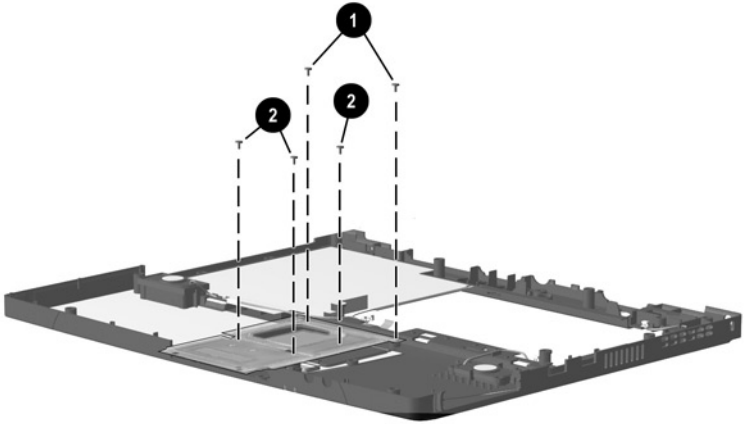

Figure 5-11. Removing the TouchPad Screws
3. Remove the two silver M2.5 × 3.0 screws ❶ and the three black M2.5 × 4.0 screws ❷ that secure the TouchPad bracket and TouchPad to the top cover (Figure 5-11).